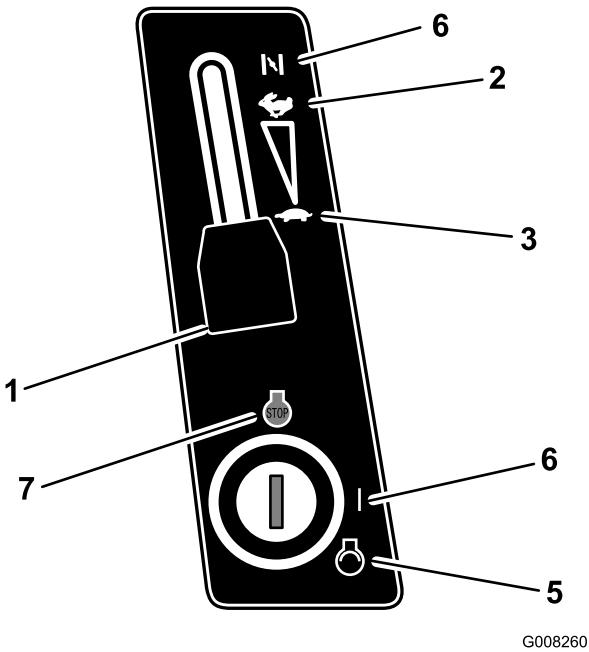

Figure 12
- When starting a cold engine, shift the throttle control lever to the Choke position (Figure 12).
- Shift the throttle control lever to the Slow position (Figure 12).
- Turn the ignition key clockwise and hold it in the Start position (Figure 12). When the engine starts, release the key.
- After the engine starts, slowly shift the throttle control lever to Fast (Figure 12).
- Move the throttle control lever to Slow (Figure 12).
- Turn the ignition key to Off (Figure 12).